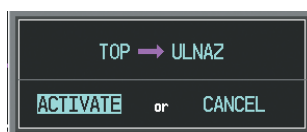

Figure 5-110 Confirm Active Leg
- c) Press the **ACT LEG** Softkey. The confirmation window is now displayed as in Figure 5-110. Note the TOP to SLN leg is actually part of V4.